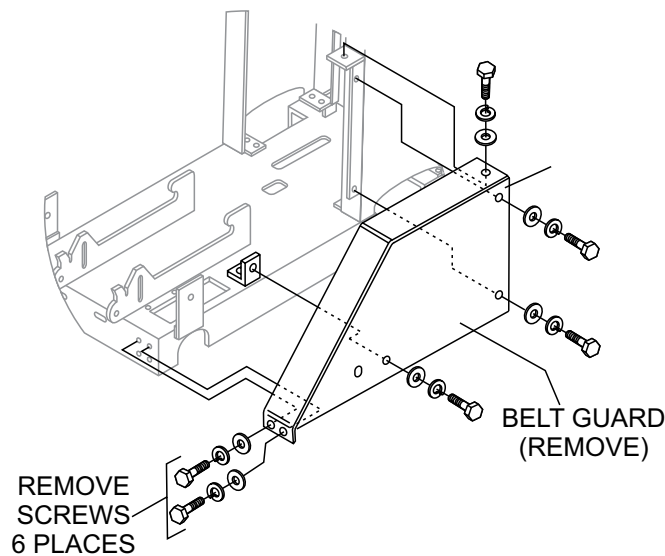

Figure 52. Belt Guard Removal
1. Remove the Belt Guard (Figure 52).